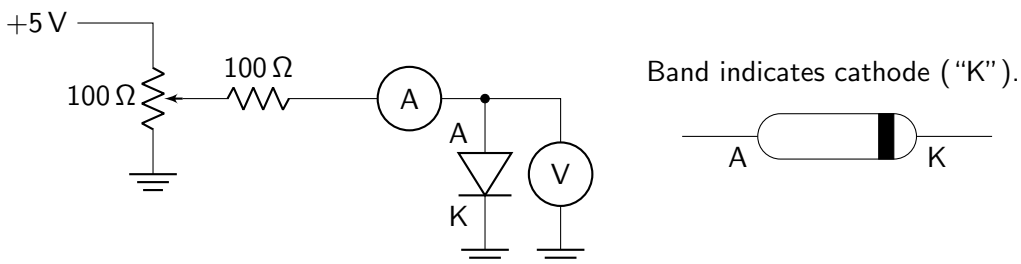

Figure 7: Circuit to investigate I vs V of a diode.
- (a) Replace the bulb in your Figure 5B with a diode, and (important!) add a $100\ \Omega$ resistor in series; thus the circuit of Figure 7.